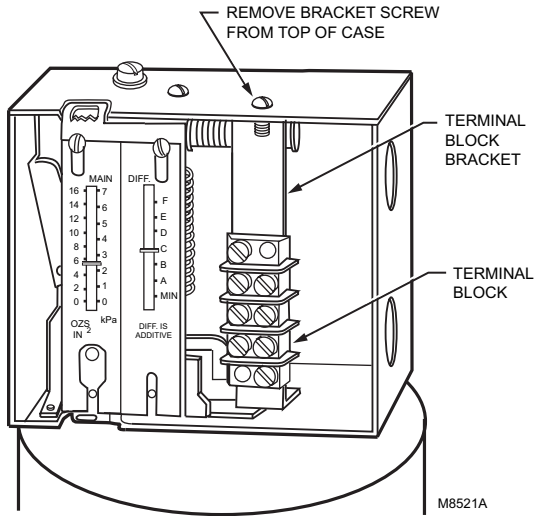

Fig. 8. Removing terminal block bracket.
5. Connecting the ohmmeter between controller terminals W and R (Fig. 8) and raising the setpoint of the controller above the actual pressure being measured. The ohmmeter should read the full value of the potentiometer measured in step 4 (135 ohms for an L91A,B, or D).
Replacing the Controller Potentiometer (Fig. 8–10)
4. Remove the screw holding the terminal block bracket to the top of the case (Fig. 8). Put this screw in a safe place because it will be needed later.
7. Loosen the (W) and (B) screws on the terminal block, and remove the two wires to the active winding of the potentiometer. Leave the wire to the wiper arm intact.
12. Connect the two potentiometer wires to the (W) and (B) terminals on the terminal block and tighten the screws. Make sure these wires are connected to the same terminals as in the old potentiometer. (Consult sketch in step 6.)
13. Carefully fit the hole in the bottom of the terminal block bracket over the screw protruding upward from the bottom of the case (Fig. 10). Insert the screw (removed in step 4) through the hole in the top of the case (Fig. 8) and into the top of the bracket, and tighten it.